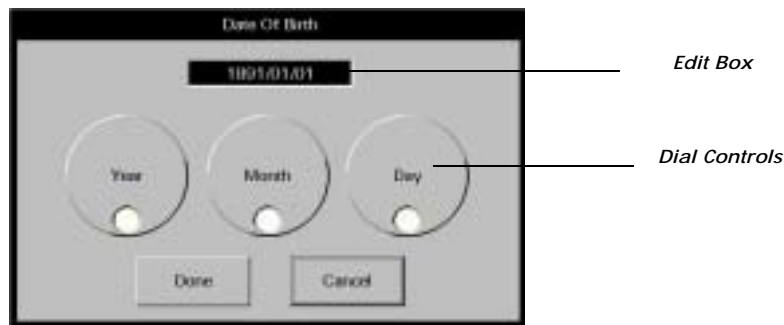

FIGURE 5-5 Date Of Birth Dialog Box
1. From the **Demographics** tab, select the **Date Of Birth** field. The **Date Of Birth** dialog box (FIGURE 5-5) is displayed.